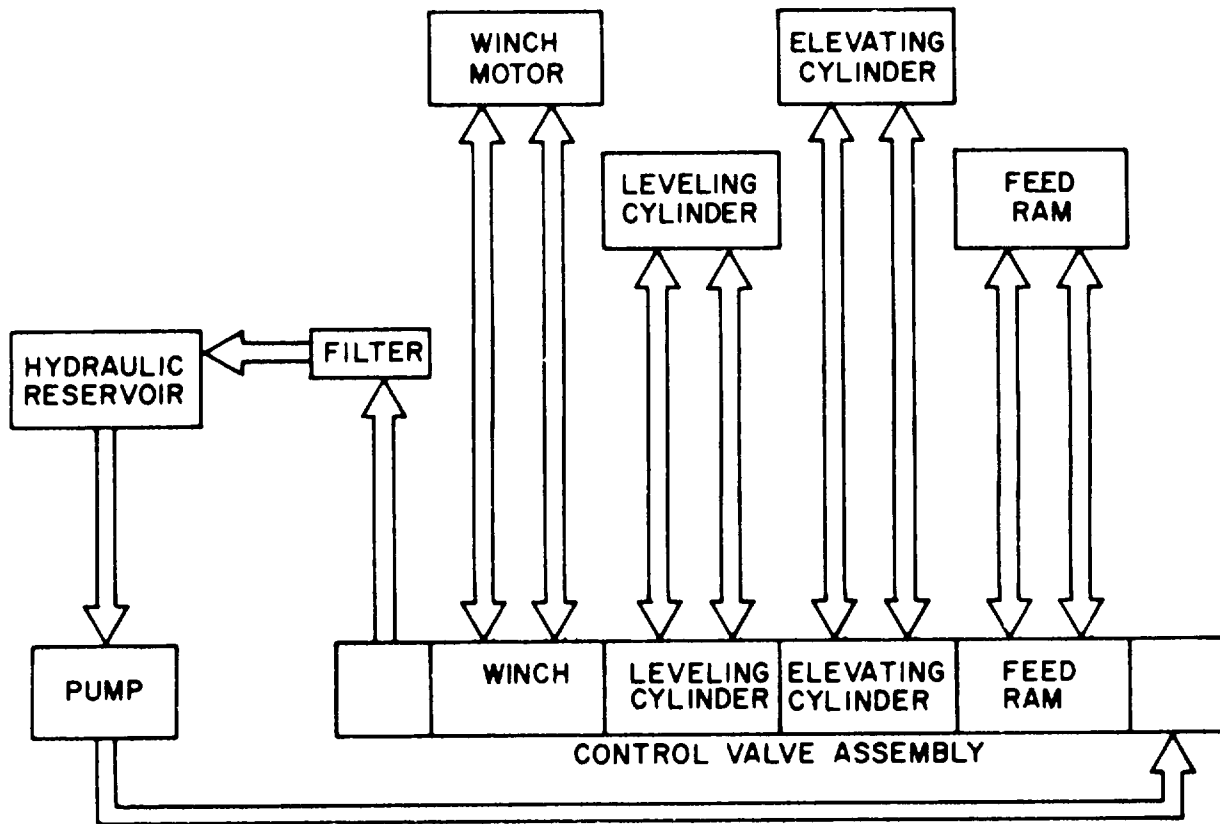

Figure 1-4. Hydraulic diagram
(10) *Hydraulic diagram.* See figure 1-4.